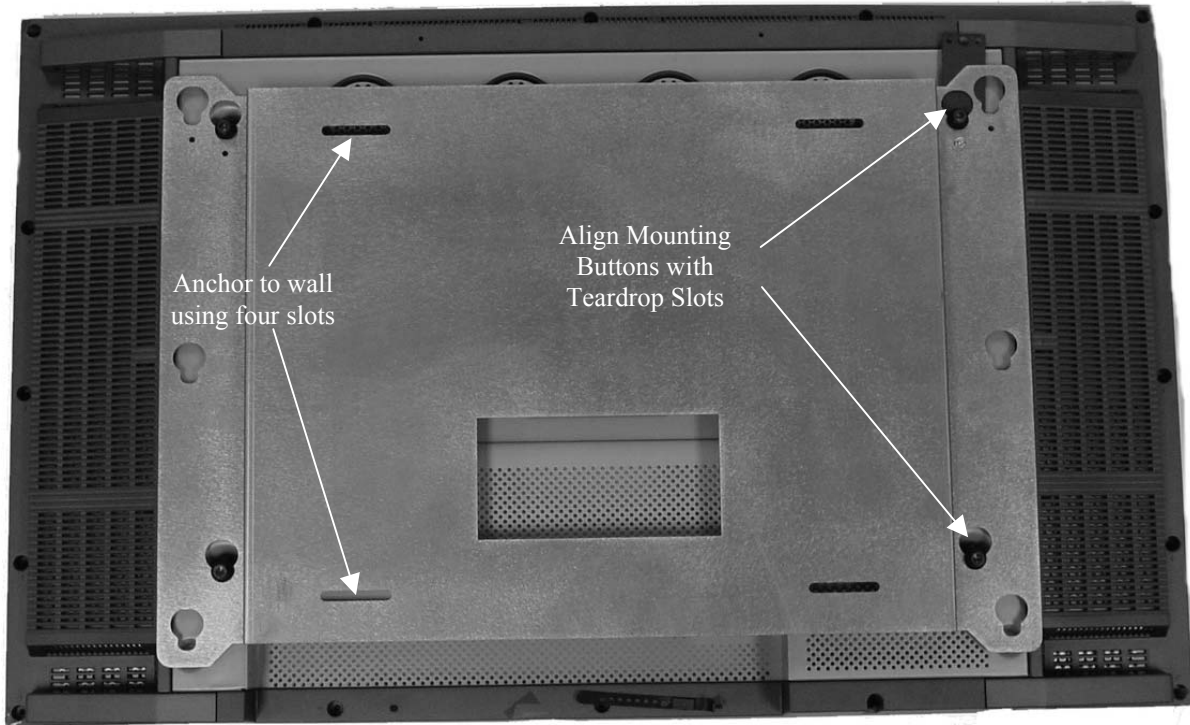

Figure 4
3. Securely anchor the plasma static mount to the wall using wall studs or supporting framework (See Figure 4).